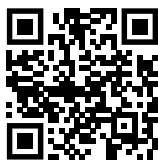

Fig. 108
- ▶ Open Liebherr SmartMonitoring Dashboard. (see Fig. 108)